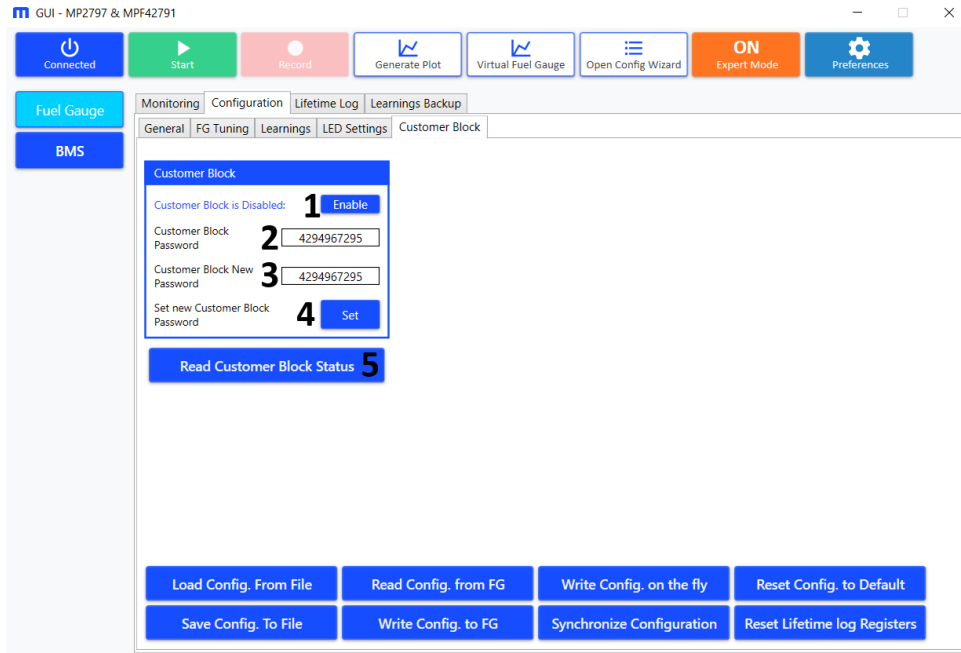

Figure 56: Customer Password Tab
2. The GUI should show the default Customer Block Password (denoted as “2” in Figure 56 on page 43).
3. To change the password, write the new pass into Customer Block New Password (3) (denoted as “3” in Figure 56 on page 43).
4. Ensure that the customer block is disabled, then click “Set” (denoted as “4” in Figure 56 on page 43).
5. If the “Set” button is disabled, click “Read Customer Block Status” (denoted as “5” in Figure 56 on page 43). A message reading “Successfully Set New Password” should appear if the operation was successful (see Figure 56 on page 43).
6. To enable the customer block, click “Enable” (denoted as “1” in Figure 56 on page 43). Then enter the correct password. A message reading “Successfully completed operation” should appear; otherwise, this feature is blocked after 3 additional incorrect attempts.
7. To disable the customer block, click “Disable” (denoted as “1” (“Enable”) in Figure 56 on page 43). Then enter the correct password. A message reading “Successfully completed operation” should appear; otherwise, this feature is blocked after 3 additional incorrect attempts.